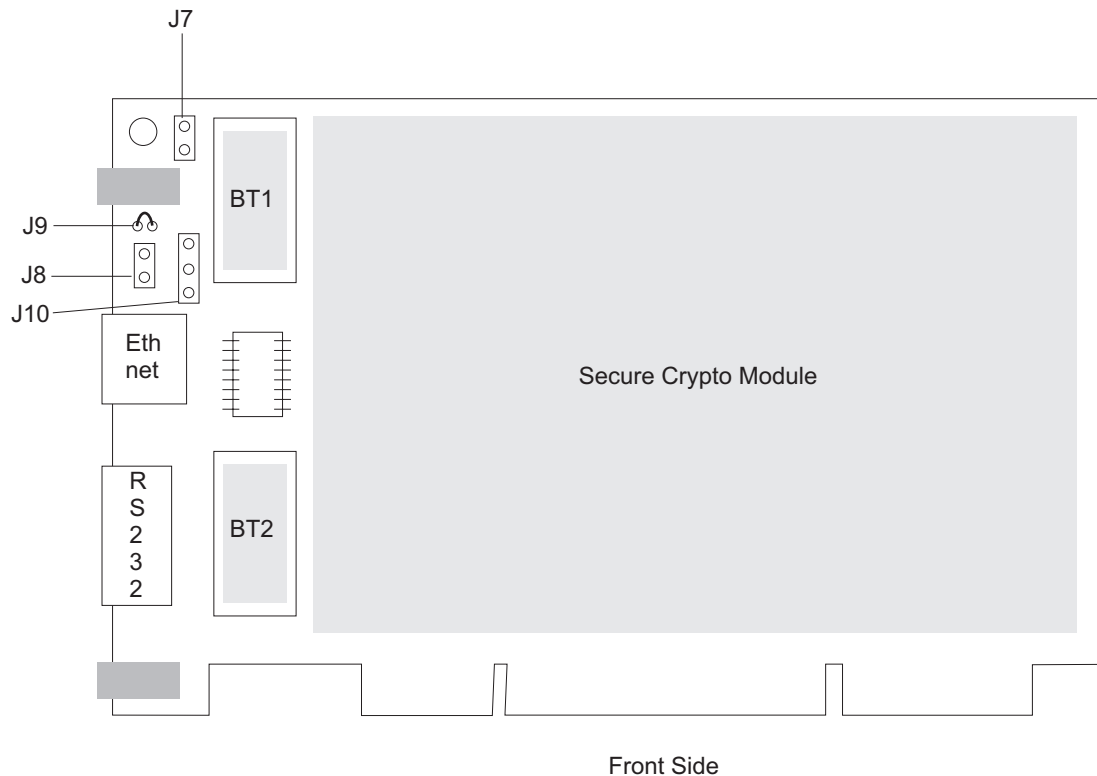

Figure 3. J10 connector and battery locations on the PCI-X cryptographic coprocessor
6. Insert one of the new batteries into the battery tray provided with the kit. Align the "+" on the battery with the "+" on the battery tray (the end with the red wire). Connect the tray's wires to the J10 connector located near the RS-232 serial port; see Figure 3 on page 9. The connector is polarized to ensure a proper connection.